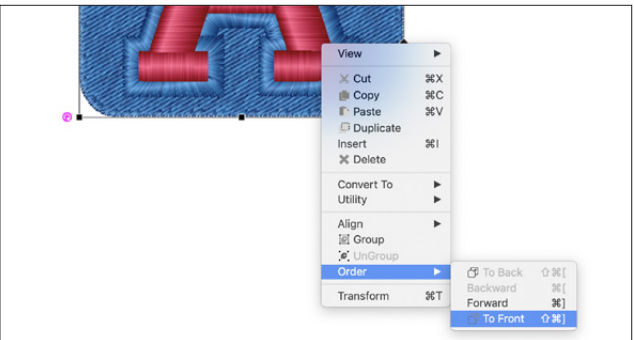

Figure 21
- The Layering tool gives you the ability to move an object to the front or back without having to use the Sequence tab. **See Figure 21.**